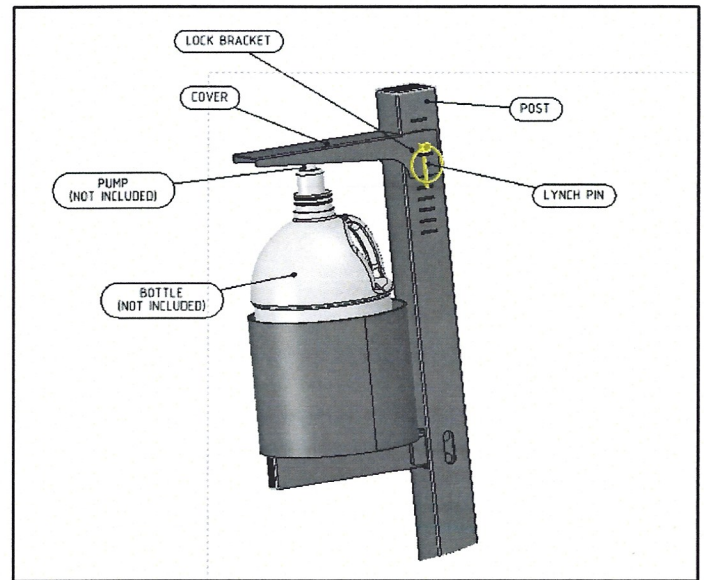

Figure 3
**STEP 3:** PLACE COVER (1) ON TOP OF POST. LINE UP SLOTS ON SIDE OF COVER WITH SLOTS ON SIDE OF POST WHILE MAKING SURE TOP OF PUMP IS ENGAGING WITH UNDERSIDE OF COVER SEE **FIGURE 3** BELOW.